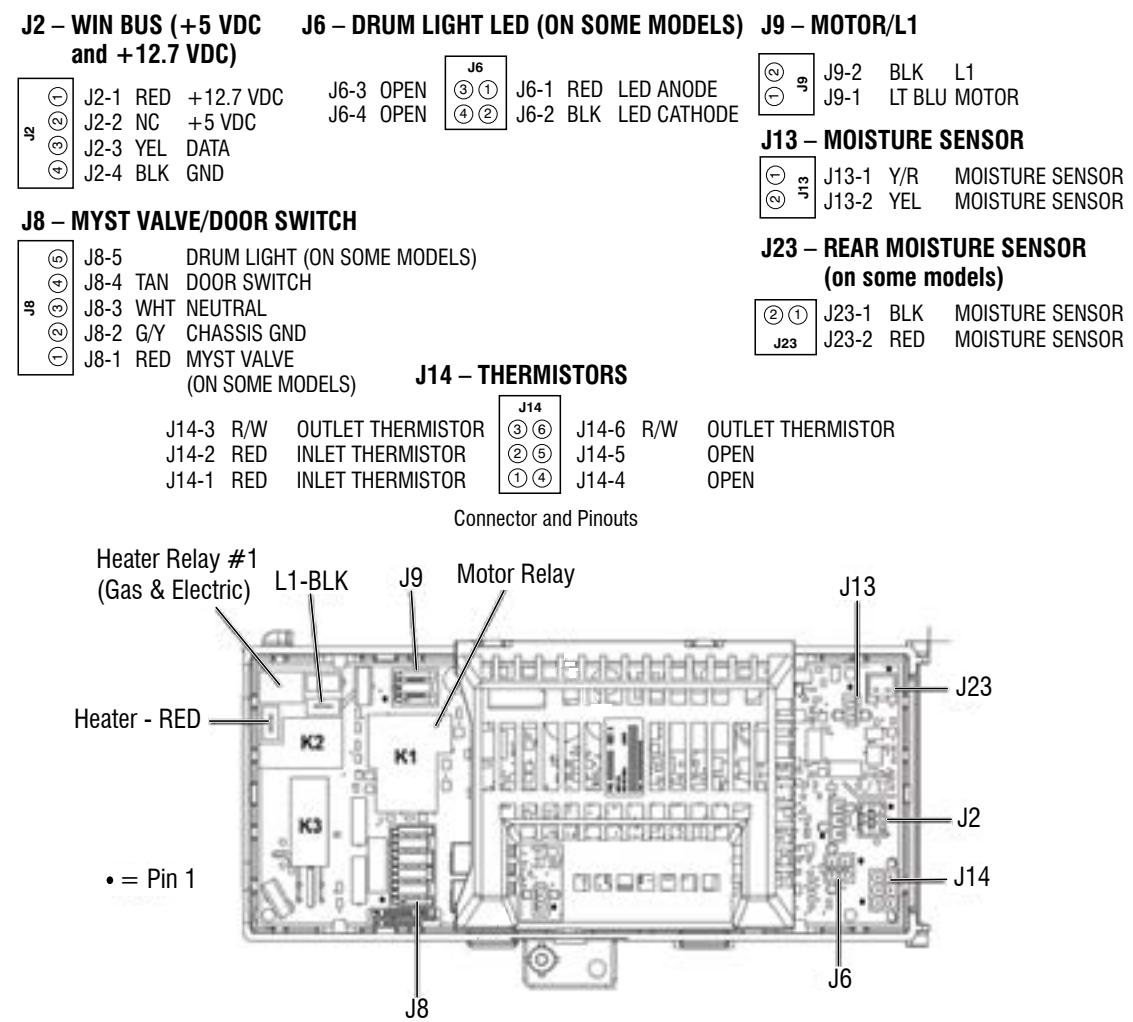
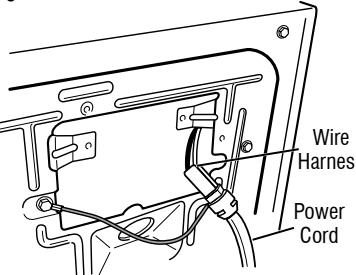
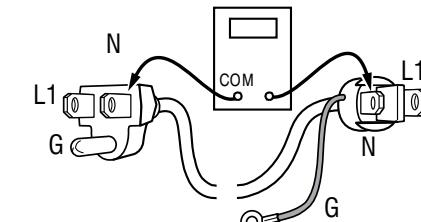

Figure 2 - Main Control (ACU)
Figure 6 - Power cord-to-wire harness connection for gas dryer
Figure 7 - Power cord terminals, gas dryer
8. ACU VAC – With voltmeter set to AC, connect black probe to ACU J8-3 (N) and red probe to J9-2 (L1) (see Figure 2).
2. Remove the cover plate from the top right corner of the back of the dryer. See figure 6.
3. Check that the power cord is firmly connected to the dryer's wire harness. See figure 6.
5. With an ohmmeter, check for continuity between the neutral (N) terminal of the plug and J8-3 (white wire) on the ACU. The left-hand side of figure 7 shows the position of the neutral terminal (N) on the power cord plug. Also see Figure 2.
- If there is no continuity, disconnect the white wire of the main harness from the power cord at the location illustrated in figure 6. Test the continuity of the power cord neutral wire as illustrated in figure 7. If an open circuit is found, replace the power cord. Otherwise, go to step 6.
- If there is no continuity, check the continuity of the power cord in a similar way to that illustrated in figure 7, but for power cord's L1 wire.